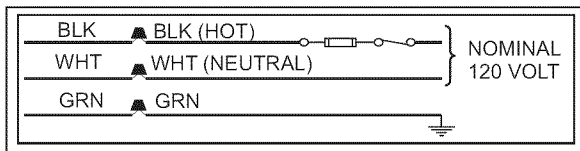

FIGURE 18: Electrical Wiring - Upflow Position
2. Remove the screws retaining the wiring box cover. Route the power wiring through the opening in the unit into the junction box with a conduit connector or other proper connection. In the junction box there will be three wires, a Black Wire, a White Wire and a Green Wire. Connect the power supply as shown on the unit-wiring label on the inside of the blower compartment door or the wiring schematic in this section. The black furnace lead must be connected to the L1 (hot) wire from the power supply. The white furnace lead must be connected to neutral. Connect the green furnace lead (equipment ground) to the power supply ground. An alternate wiring method is to use a field provided 2" (51 mm) x 4" (102 mm) box and cover on the outside of the furnace. Route the furnace leads into the box using a protective bushing where the wires pass through the furnace panel. After making the wiring connections replace the wiring box cover and screws. Refer to Figure 18.